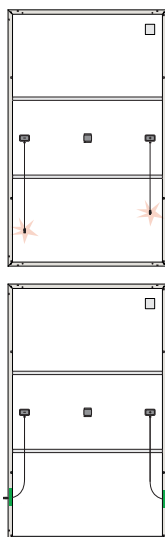

Figure 3. Fixing of cables and connectors
- To avoid the damage of the back sheet by the connector, fix the cables to the frame with tape after unpacking. (refer Figure 3)